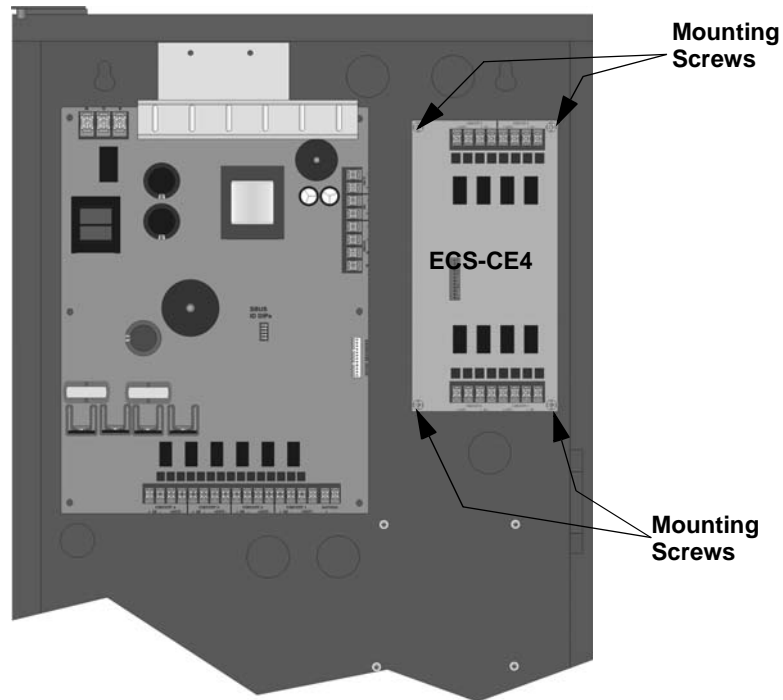

Figure 4-76 Mounting the ECS-CE4
1. Using the four supplied screws mount the ECS-CE4 in the cabinet as shown in Figure 4-76.